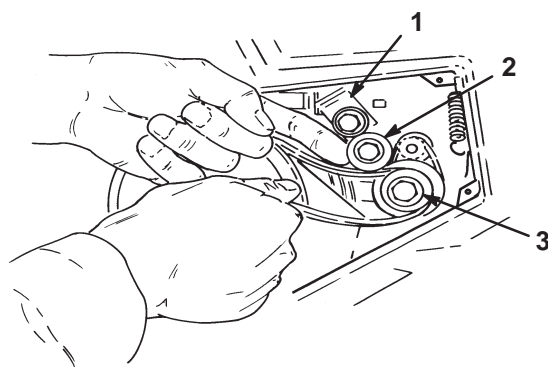
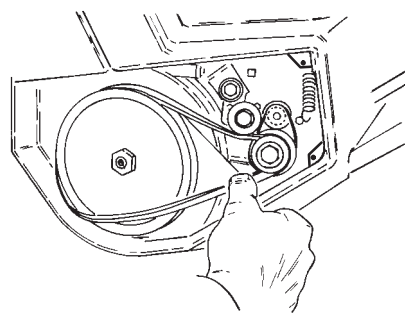

Figure 20
Figure 21
4. Slip the new belt over the small pulley. Lift up the idler arm and slip the belt under the idler pulley (Fig. 20). Rotate the rotor with your left hand while sliding the belt onto the large pulley with your right hand (Fig. 21).
10. Slip the large belt over the small pulley (Fig. 21).